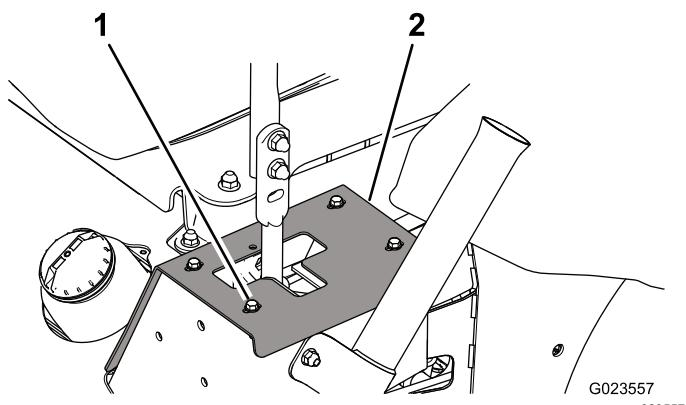

Figure 62
2. To access the damper-mounting bolts, remove the bolts that secure the stop plates to the frame (Figure 62).